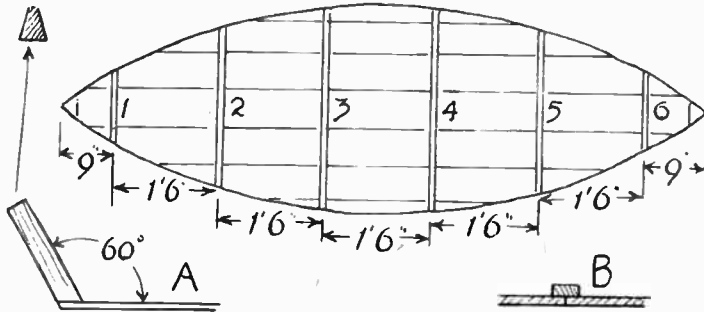

Fig. 1—A plan view of the floor and section of parts
Lute the edges of the boards close up tightly and keep together with a narrow batten at each end. Run a pencil line down the centre, and on this draw pencil lines across, as in plan view, Fig. 1, to guide the laying of the frame. At each end a stem post will be erected, as at (A). These are 1ft. 6in. lengths of 3in. square wood, planed to a triangular section, with a flat on the narrow end of  $\frac{1}{2}$  in.
Now remove the bottom battens and saw the bottom of the canoe to the shape as in Fig. 1. The battens can then be permanently fixed in place, but should cover the edges of the canoe bottom as well. Owing to the rise at each end it will be found that these